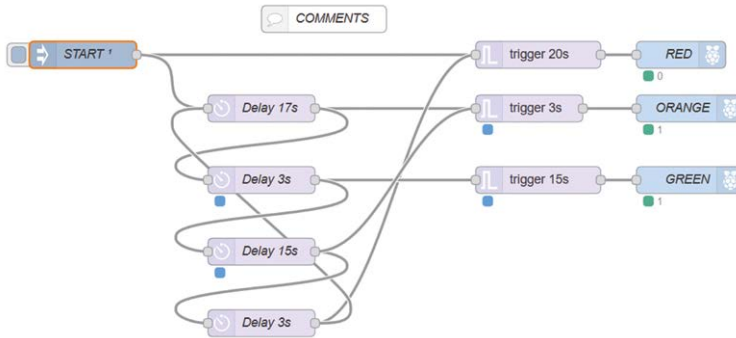
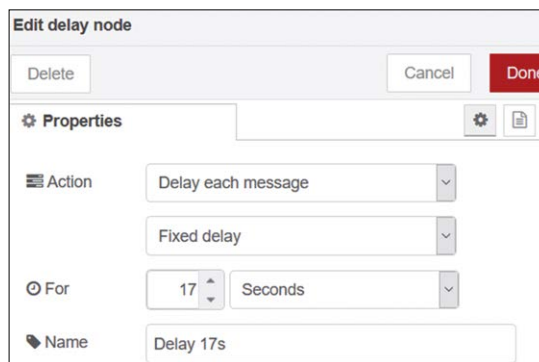

Figure 5.43 Flow program of the project
Figure 5.44 17 seconds delay node
Node-RED flow program: Figure 5.43 shows the flow program. In this program 11 nodes are used: an **inject** node to start the simulation, 4 **delay** nodes to generate the required timing delays, 3 **trigger** nodes, and 3 **rpi gpio out** nodes.
- Create 4 **delay** nodes as shown in Figure 5.43. These nodes will generate the required delay timings. For example, when the Red LED is triggered to stay ON for 20 seconds. After a delay of 17 seconds, the Orange LED is also turned ON so that both the Red and Orange are ON for 3 seconds. After this time the Green LED is triggered to stay ON for 15 seconds, and after this time the Orange LED is turned ON for 3 seconds, and then back to the Red LED. This sequence is repeated forever. Figure 5.44 shows a typical **delay** node configuration.
- Join all the nodes as shown in Figure 5.43, and click **Deploy**. Click the button of node **inject** to start the simulation. You should see the 3 LEDs simulating the traffic lights with the timing as specified at the beginning of this project.